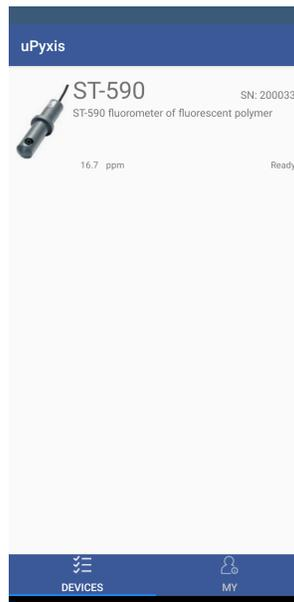

Figure 7.
3. If the connection is successful, the ST-590 and its Serial Number (SN) will be displayed (Figure 7).